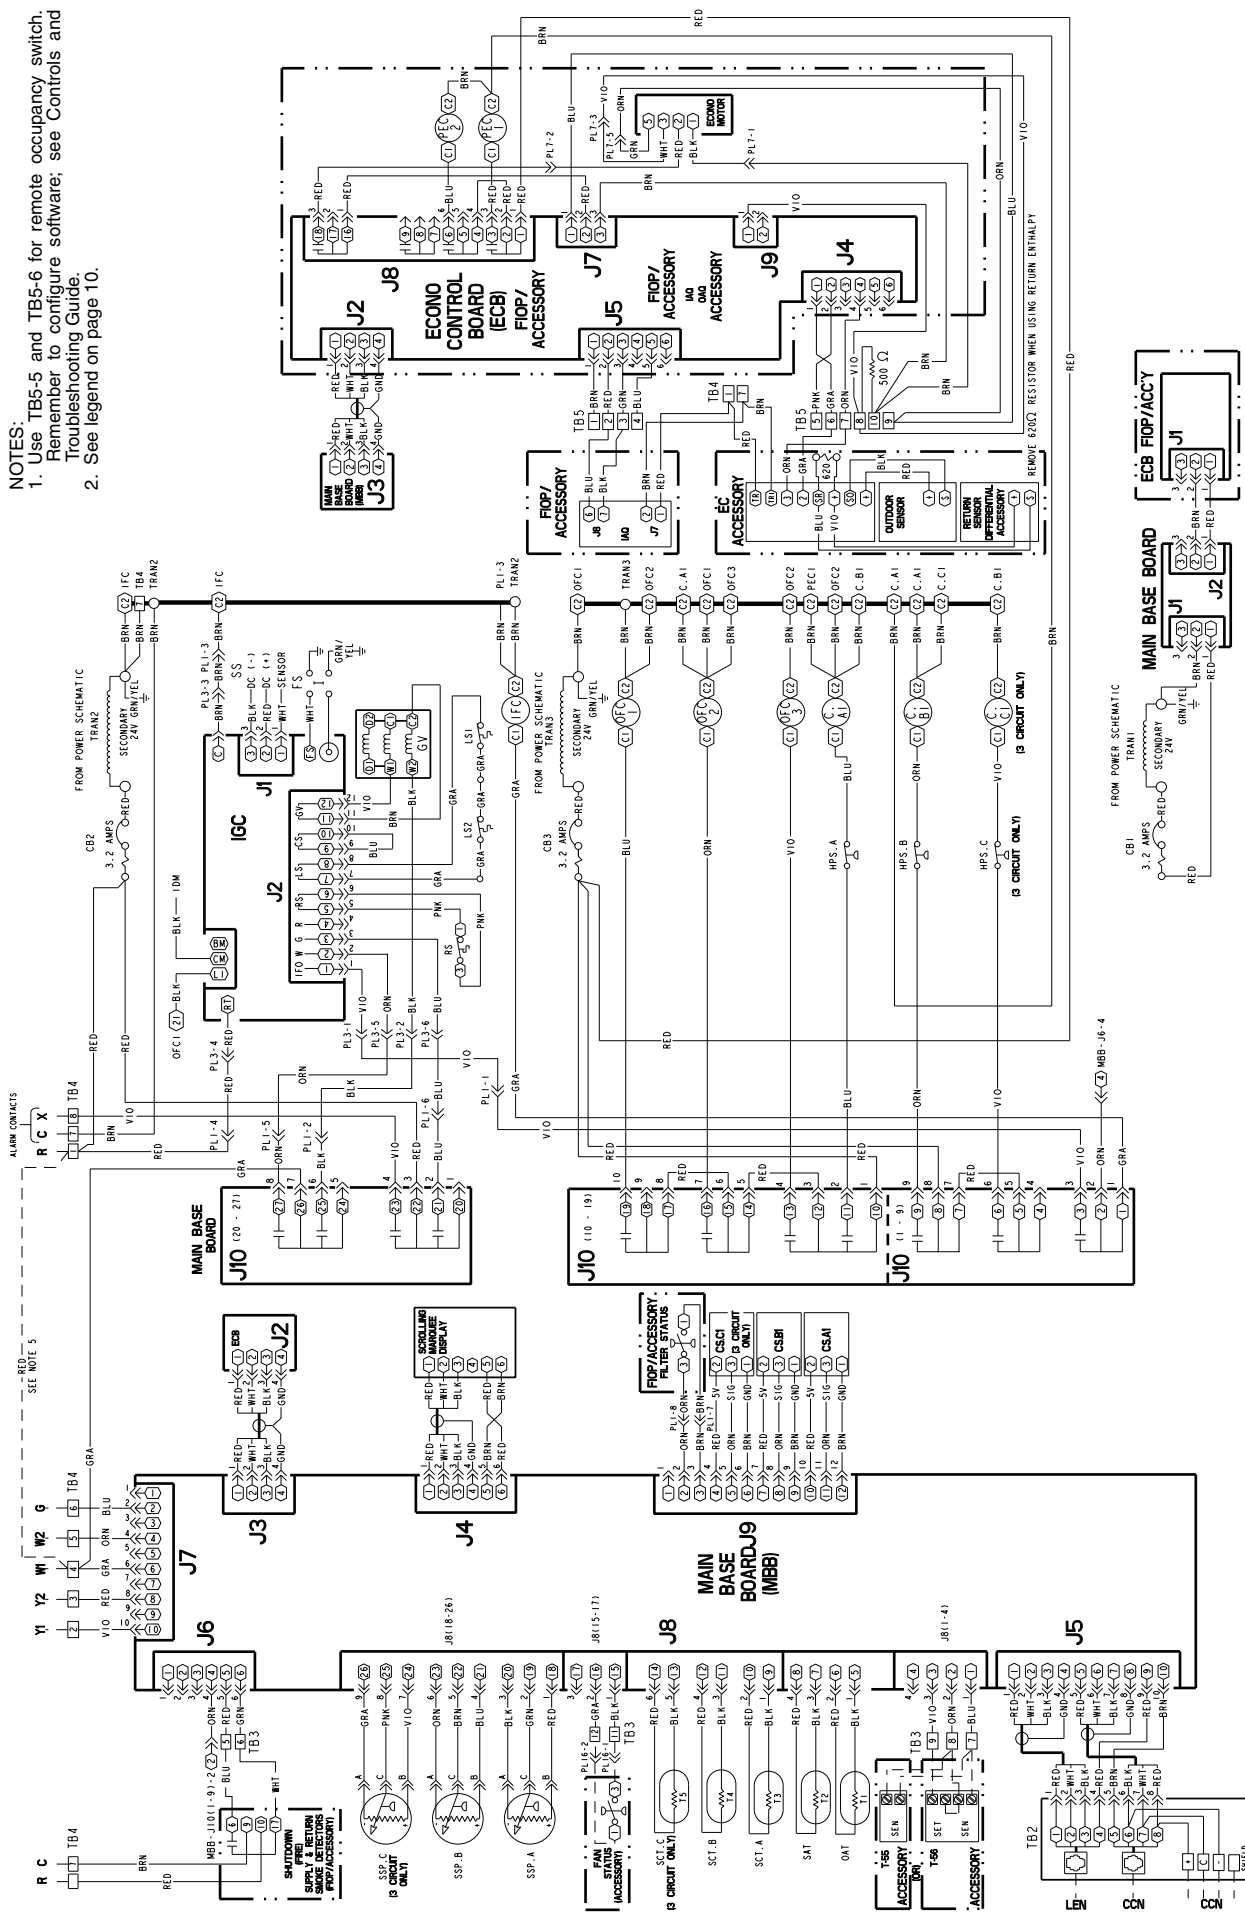

Fig. 1A — Low Voltage Control Schematic — 48HG Units (DR0)
General — The 48/50HG single package rooftop units with electric cooling and gas heating (48HG units) or electric cooling and electric heating (50HG units) contain the *ComfortLink* electronic control system that monitors all operations of the rooftop. The control system is composed of several components as listed in sections below. See Fig. 1A-3B for the control and power schematics. Figures 4A and 4B shows the layout of the control box, unit, and thermistor and transducer locations.
Carrier Comfort Network Interface — The 48/50HG units can be connected to the CCN if desired. The communication bus wiring is a shielded, 3-conductor cable with drain wire and is field supplied and installed. See Table 7 for wiring information. The system elements are connected to the communication bus in a daisy chain arrangement. The positive pin of each system element communication connector must be wired to the positive pins of the system elements on either side of it. This is also required for the negative and signal ground pins of each system element. Wiring connections for CCN should be made at TB2. See Fig. 1A-2B. Consult the CCN Contractor's Manual for further information.
- LEGEND FOR FIG. 1A TO 4B**